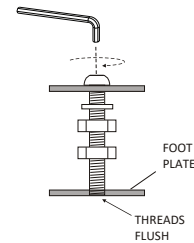

Figure 4-38
14. Thread the bolt into the foot plate until it is flush with the bottom of the foot plate. **See Figure 4-38.**